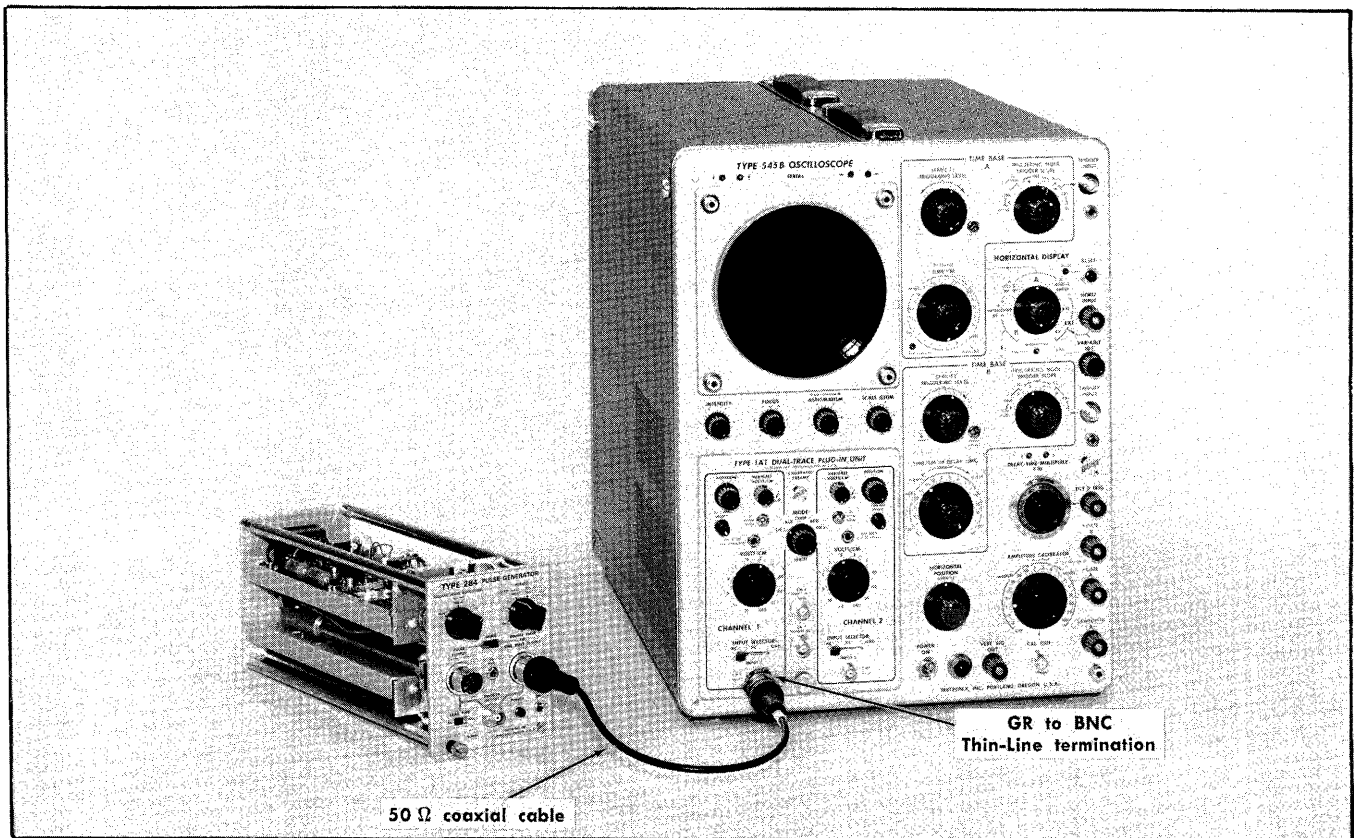

Fig. 6-9. Equipment setup for steps 5 and 6.
**5. Adjust 100 ns Drive, L21** ❶
a. Use the equipment setup shown in Fig. 6-9. Obtain a stable display of the 100 ns period 10 MHz square wave signal on the test oscilloscope.